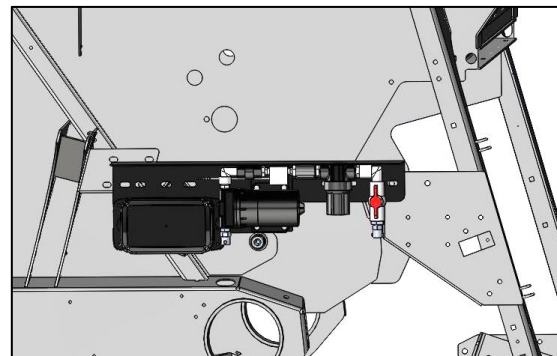

Figure 5
6. Attach pump plate with pump onto Mounting Plate (001-4646C) bracket with 3/8" x 3/4" flange figure 5.